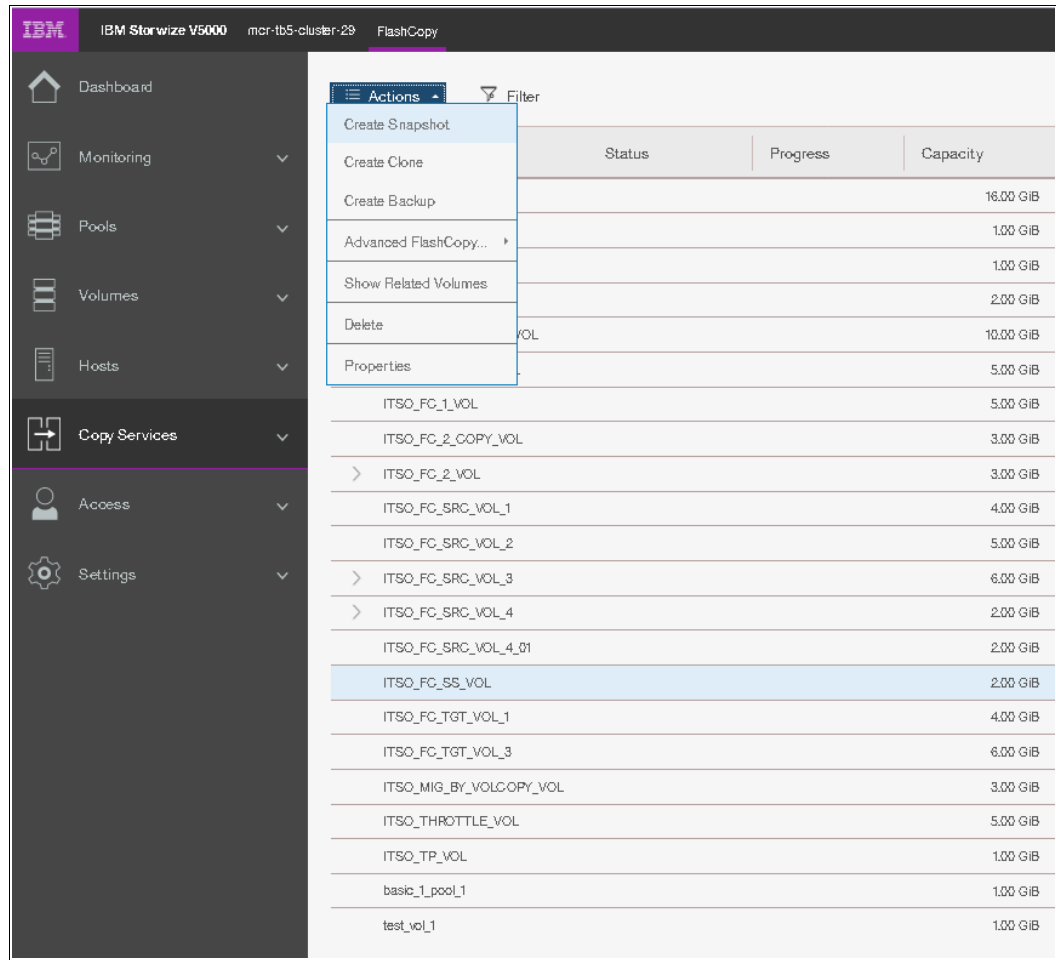

Figure 10-31 Create Snapshot option
2. Select the volume that you want to create a snapshot of and click **Actions** → **Create Snapshot**, as shown in Figure 10-31 on page 494.